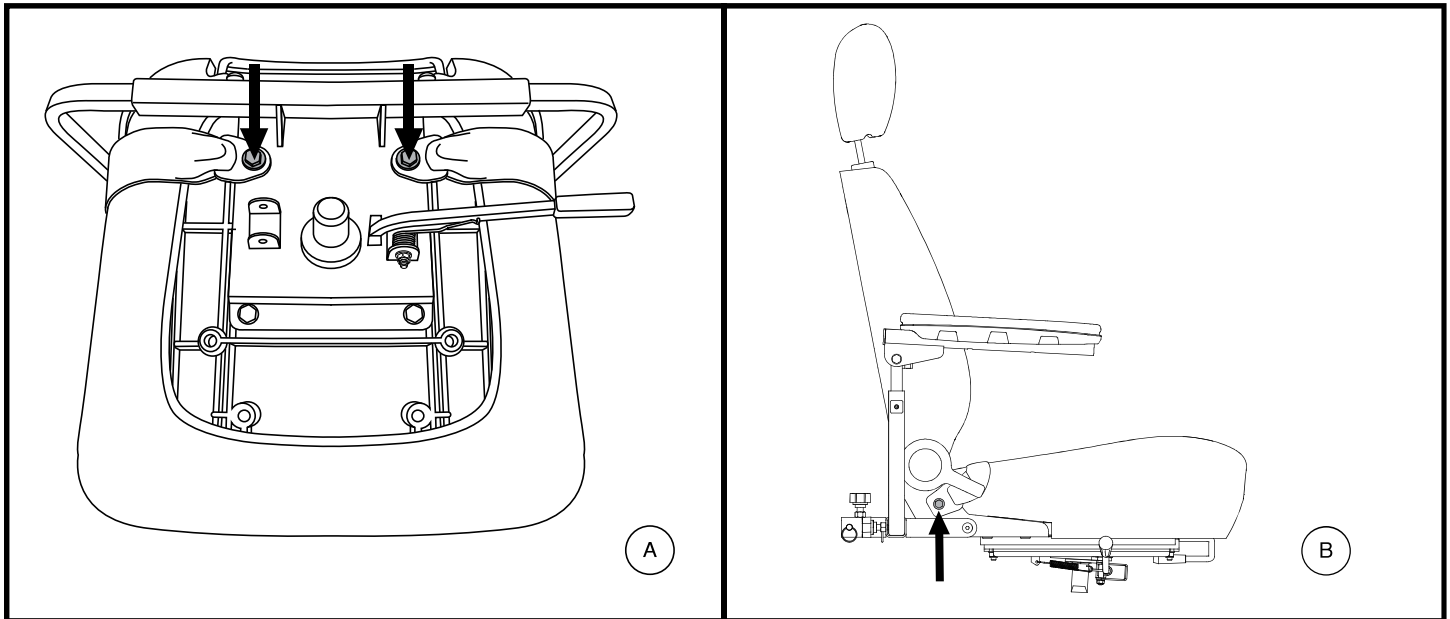

Figure 25. Positioning Belt Bolts
Your scooter seat may be equipped with a positioning belt that can be adjusted for operator comfort. **See figure 25.** The positioning belt is designed to help support the operator so that he or she does not slide down or forward in the seat. The positioning belt is not designed for use as a restraining product.
2. If necessary, place the seat upside down so that you can see the bottom of the seat base. See figure 25.